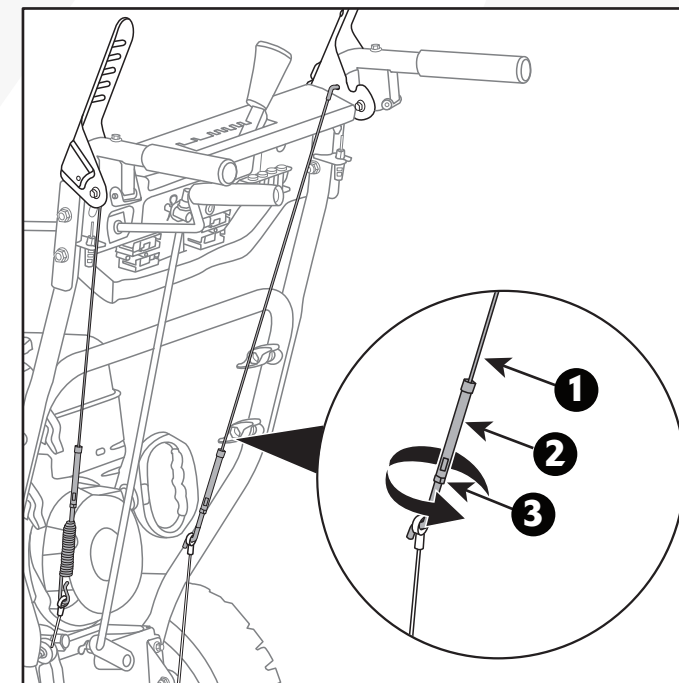

Fig.3B
3. Loosen nut (3) on the self-propel control cable (1) and then turn the adjustment bolt (2) down to shorten the cable and remove the cable slack. Rotate the nut to close the adjustment bolt so as to fix it. (Fig. 3B)